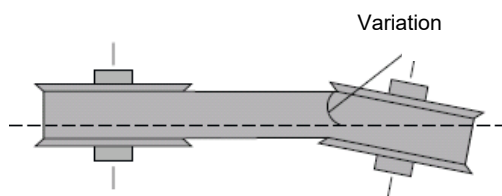

Fig. 9.2 Angular misalignment
10. Adjust motor position to correct misalignment (Fig. 9.2 and 9.3).
Generally, the tolerance in pulley alignment in V-belt drive transmissions may not be greater than 0.5 degrees or 5 mm for each 500 mm of distance between centers (Figs. 9.2 and 9.3).